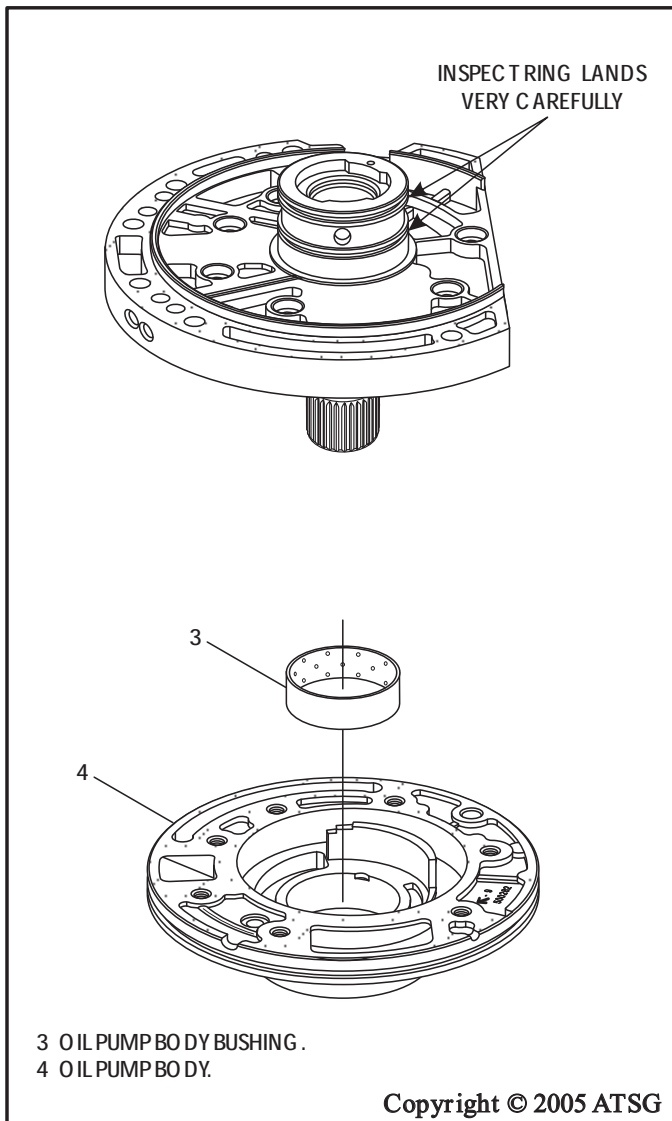

Figure 131
Note: *Inspect ring lands on the pump cover very carefully, as shown in Figure 131. It is very common to see wear here.*
5. Install new oil pump bushing if necessary, as shown in Figure 131, using the proper bushing driver.